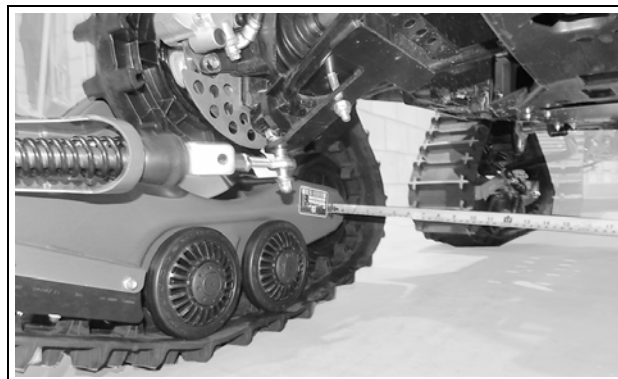

Figure 21
**Measure B:** Measure the distance inside the rear ends of the front Track System frames. See Figures 21, 22 and 23.